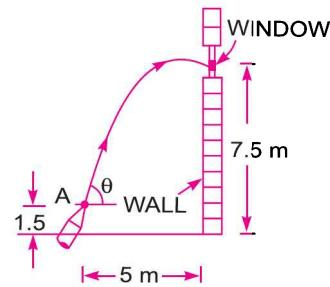

Fig. 6.32
**Problem 6.39** A fire-brigade man is holding a fire stream nozzle of 50 mm diameter as shown in Fig. 6.32. The jet issues out with a velocity of 13 m/s and strikes the window. Find the angle or angles of inclination with which the jet issues from the nozzle. What will be the amount of water falling on the window?